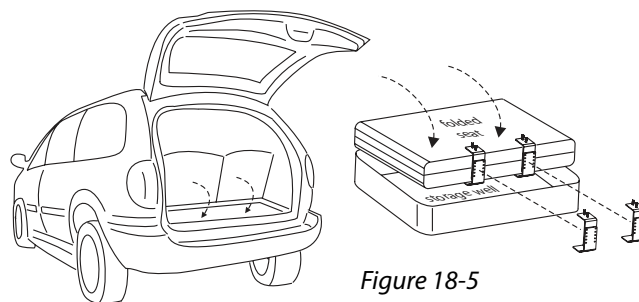

Figure 18-5
5. Position assembled parts around third row seat(s) then fold into well. [Figure 18-5]